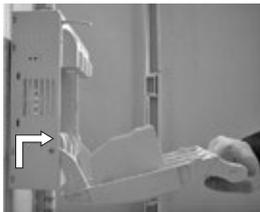

Figure 3
- Move the cover along the base of the disconnecter and then take off the cover (Figure 3).